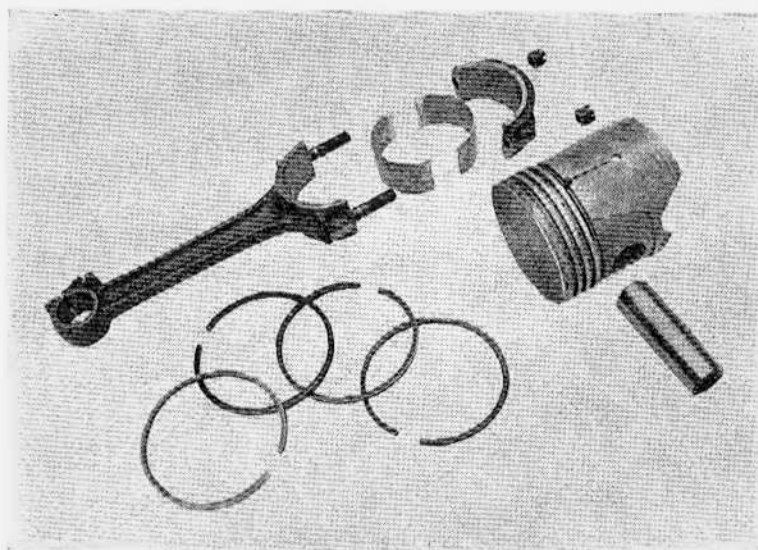

Figure 89 - Piston Assembly
(1) Place the piston in piston vise. Assemble the rod to the piston and install the piston pin. Before tightening the piston pin bolt, center the piston pin in the piston and the connecting rod in the center of the two piston pin bosses. Figure 89 shows component parts of the piston assembly.